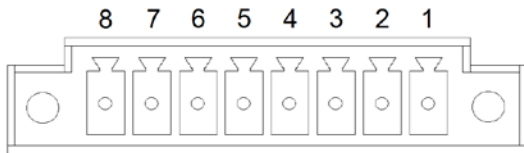

Figure 2.3-6 8 Pin GPIO Header (Looking at the Reader)
On the readers back panel, located just left of middle, is the green GPIO socket that the provided screw terminal fits into. The screw header fits securely into the socket and is tightened down with the two attached screws. Looking at the reader, the pins are numbered left to right from eight (8) to one (1). See Figure 2.3-6 for details and Table 2.3-1 for the pin out.